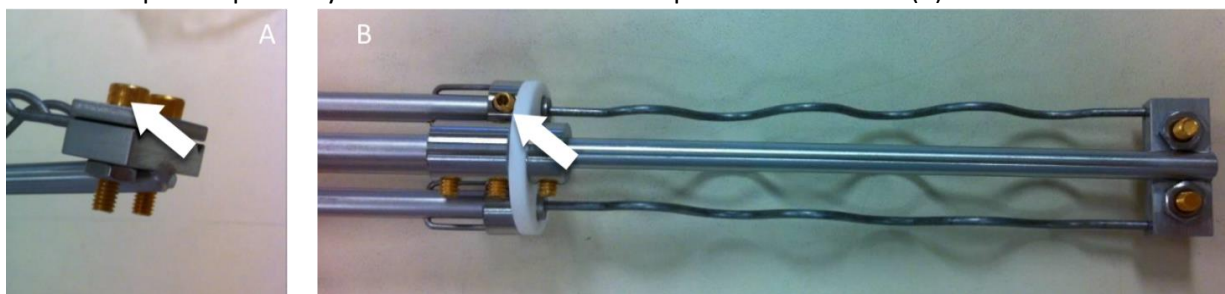

Figure 451: Unscrewing the Ti filaments from the cartridge
- Loosen the golden screws (Figure 451, A) with the 8-32 Allen key provided in the Agilent kit and use the special Spline key and loosen the screws that pinch the filaments (B).